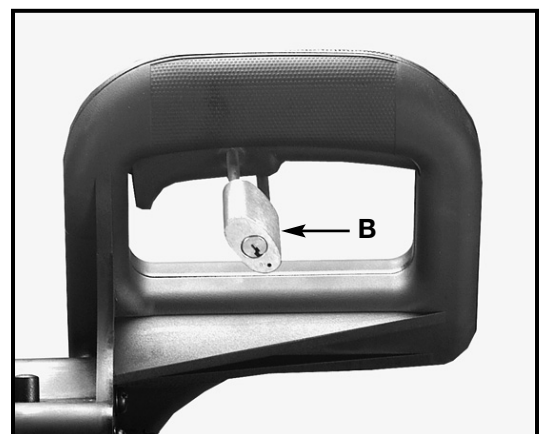

Fig. 11
IMPORTANT: When the miter saw is not in use, the switch should be locked in the OFF position using a padlock (B) Fig. 11, with a 3/16" diameter shackle to prevent unauthorized use of the saw.